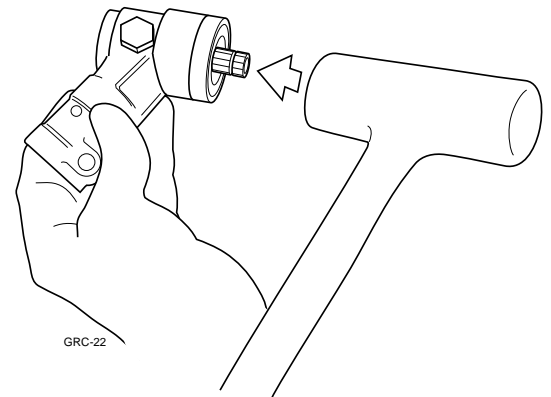

Figure 11.22 Seat the output shaft and gear assembly.
- STEP 2.** Hand-fit the output shaft and gear assembly to the inner bearing, then seat it firmly with a soft-faced hammer (Figure 11.22).